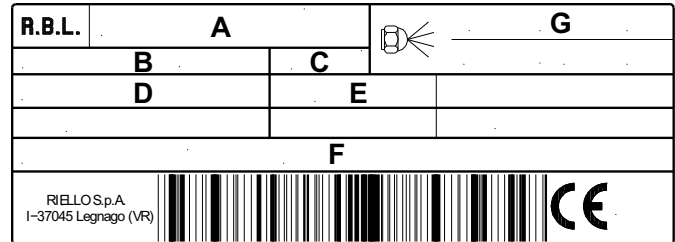

Fig. 8
- the model (A)(Fig. 8) and type of burner (B);
- the year of manufacture, in cryptographic form (C);
- the serial number (D);
- the data for electrical supply and the protection level (E);
- the absorbed electrical power (F);
- the types of gas used and the relative supply pressures (G);
- the data of the burner's minimum and maximum output possibilities (H)(see Firing rate)